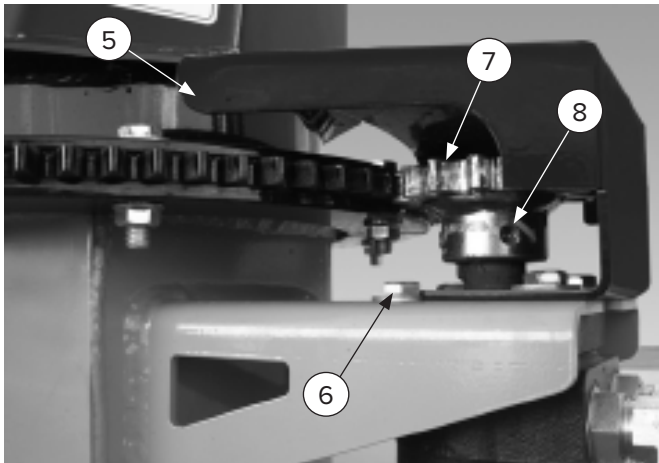

Figure 16
5. Lift chute slightly and remove chute rotate gear (Item 4) [Figure 16] from top frame mount ring.
10. Install the chute rotate gear cover (Item 5) [Figure 16].
1. To replace chute rotate drive gear (Item 7) [Figure 16], remove chute rotate gear cover (Item 5) [Figure 16].
2. Loosen drive gear set screws (Item 8) [Figure 16] and remove drive gear (Item 7) [Figure 16].
4. Install the chute rotation gear cover (Item 5) [Figure 16].